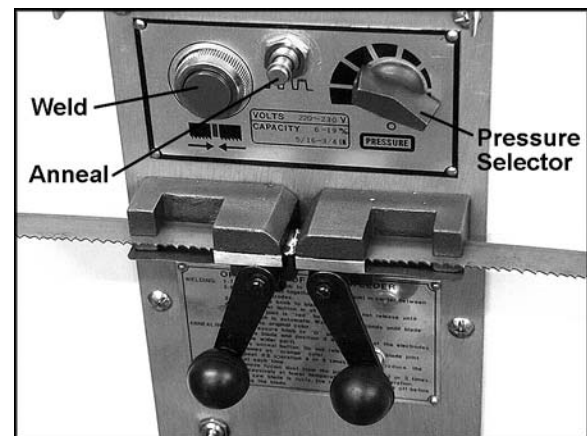

Figure 13
3. Turn pressure knob (Figure 13) to "0" position (pointed downward). NOTE: There will be some resistance when turning knob.
7. Press and hold weld button (Figure 13). When weld button is pushed, the left clamp moves to the right to apply pressure to the blade ends. Simultaneously, sparks will be emitted from the blade ends as they are being welded. Do not release weld button until blade joint is "red hot."
3. Quickly press and release ("jog") the anneal button (Figure 13). Repeat jog process until you see a slightly red glow from weld area.